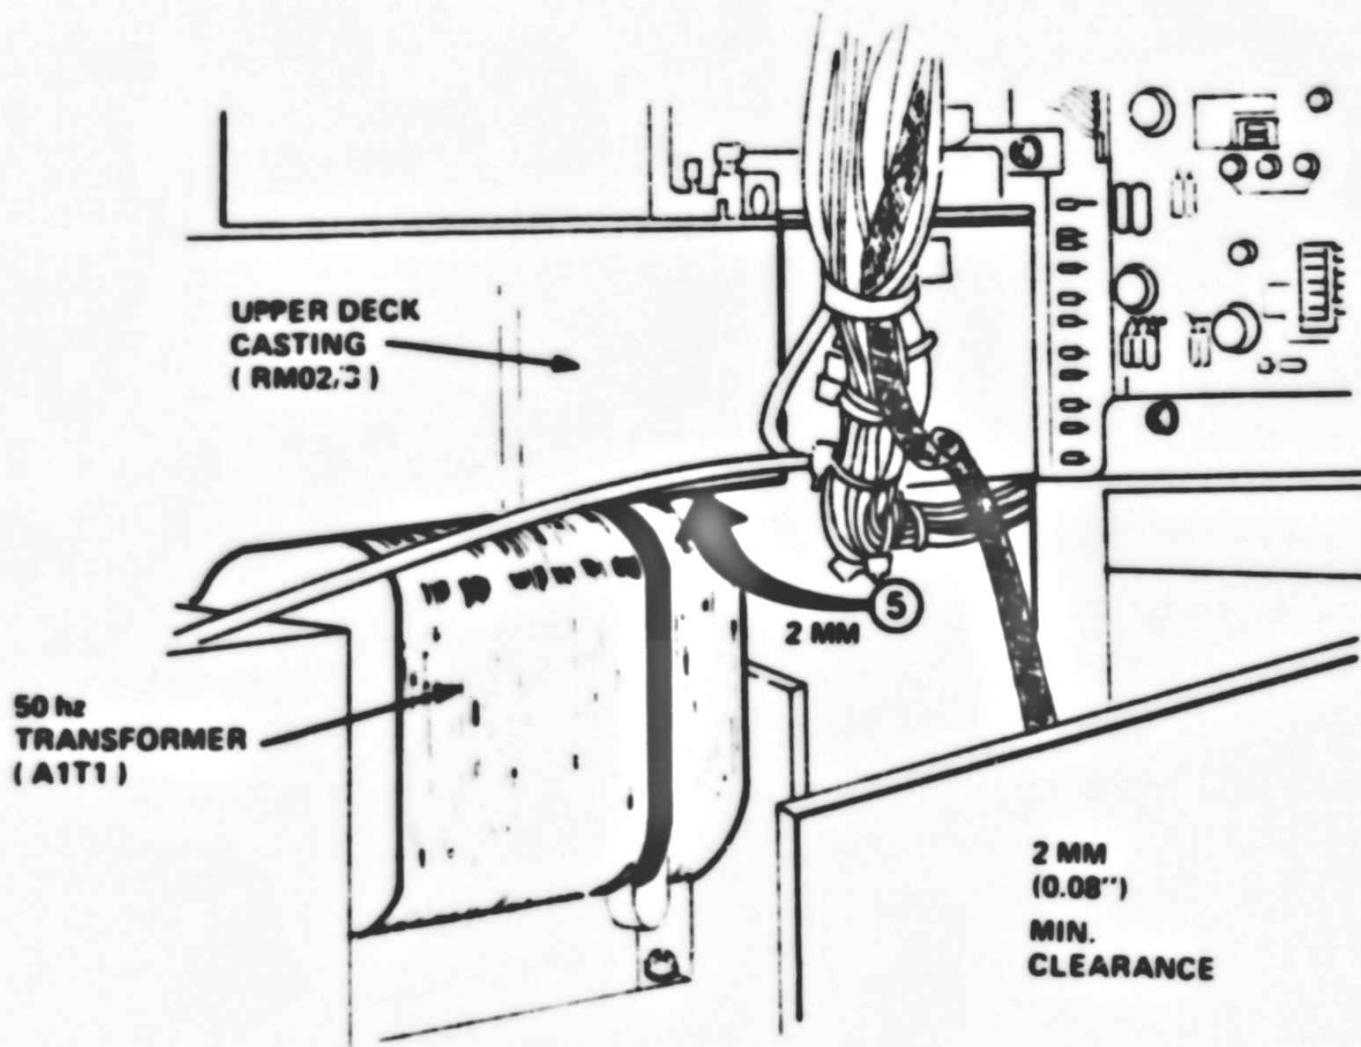

Fig. 3
- 6) A closer view of the transformer is shown in figure 3.
- 7) The critical area of clearance is noted by arrow 5, figure 3. Check to be sure that there is sufficient clearance between the transformer and the upper deck chassis. A minimum of 2mm (.08") clearance is required. A flashlight and feeler gauge set may be required.